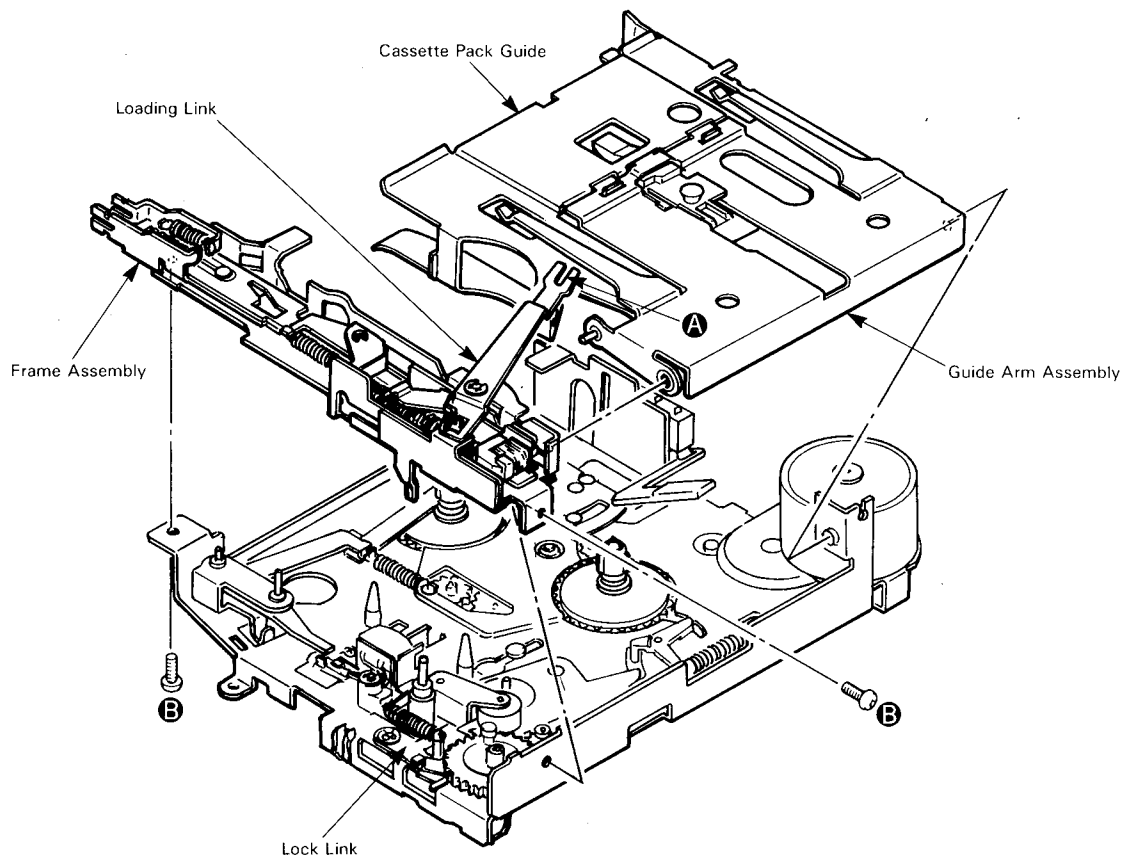

Fig. 1
2. Remove the **A** portion of the Loading Link. (See Fig.1)
3. Remove the 2 screws **B** in Fig.1 and remove the Frame Assembly, Cassette Pack Guide and Guide Arm Assembly, and then replace the head.